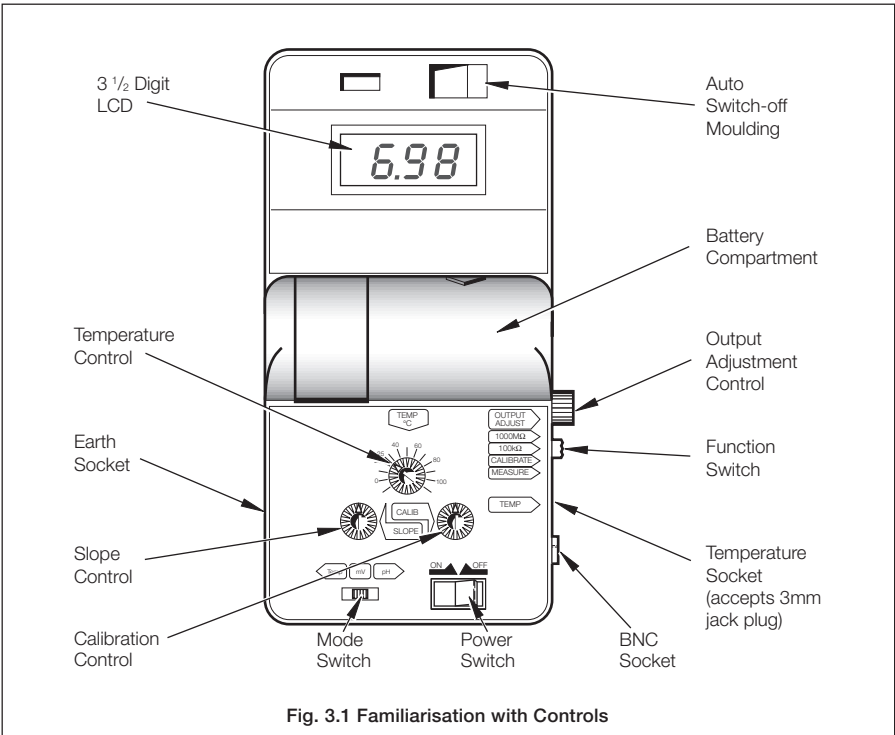

Fig. 3.1 Familiarisation with Controls
Instrument controls are as detailed in Fig. 3.1 below.
- e) If testing a pH analyzer with differential amplifier (e.g. Models 9180 or 4530/40), connect the earth socket on the Model 2410 (see Fig. 3.1) to the pH analyzer solution earth terminal using the earth wire supplied.